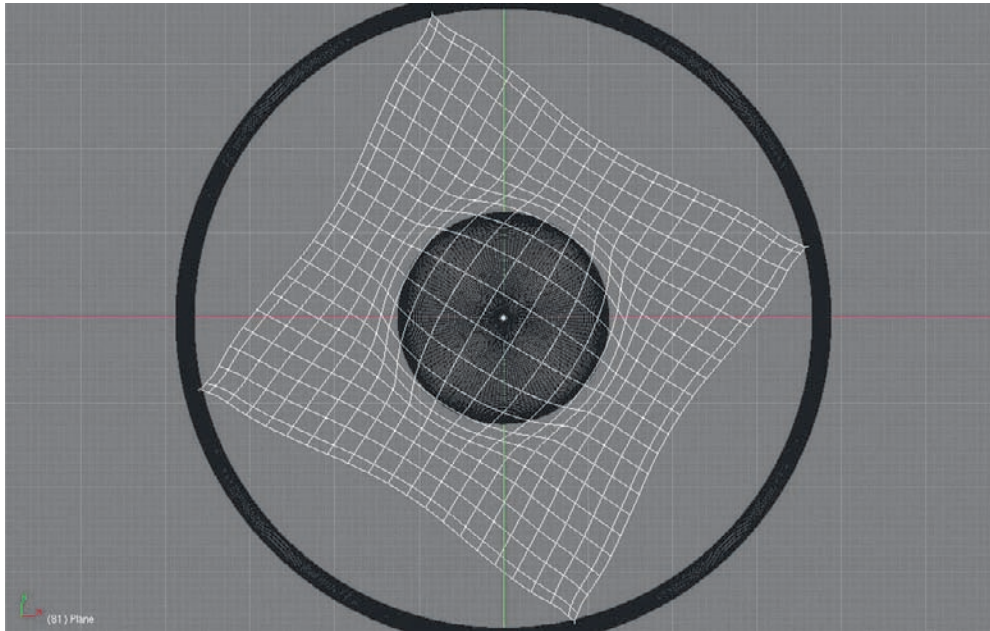

Figure 3.46 Stress can be seen in the lengths of edges.
5. After you've run the animation and the soft body simulation has been cached, you can work with the stress values more easily. Set the current frame so that the rubber plane has been fully lowered and is maximally deformed by the shape of the ball. Figure 3.46 shows how the lengths of edges in the mesh have become stretched. The degree to which they differ from their original length is their stress. As you can see from the figure, the highest stress levels are in the area where the ball has pushed into the rubber.